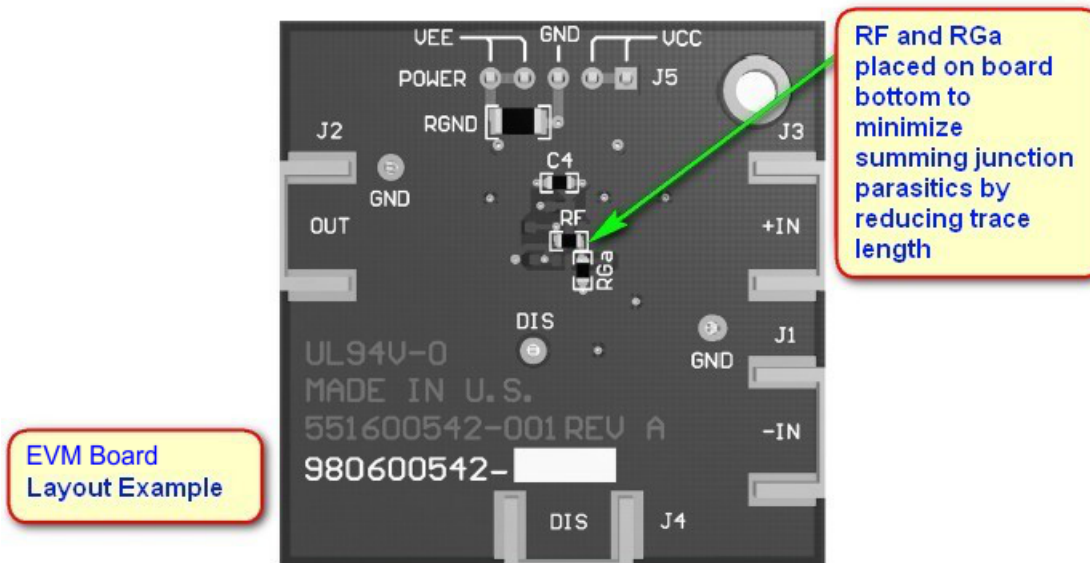

Figure 29. LMH6702 Evaluation Board Layer 2
- The input summing junction is very sensitive to parasitic capacitance. Connect any  $R_f$ , and  $R_g$  elements into the summing junction with minimal trace length to the device pin side of the resistor, as shown in Figure 29. The other side of these elements can have more trace length if needed to the source or to ground.